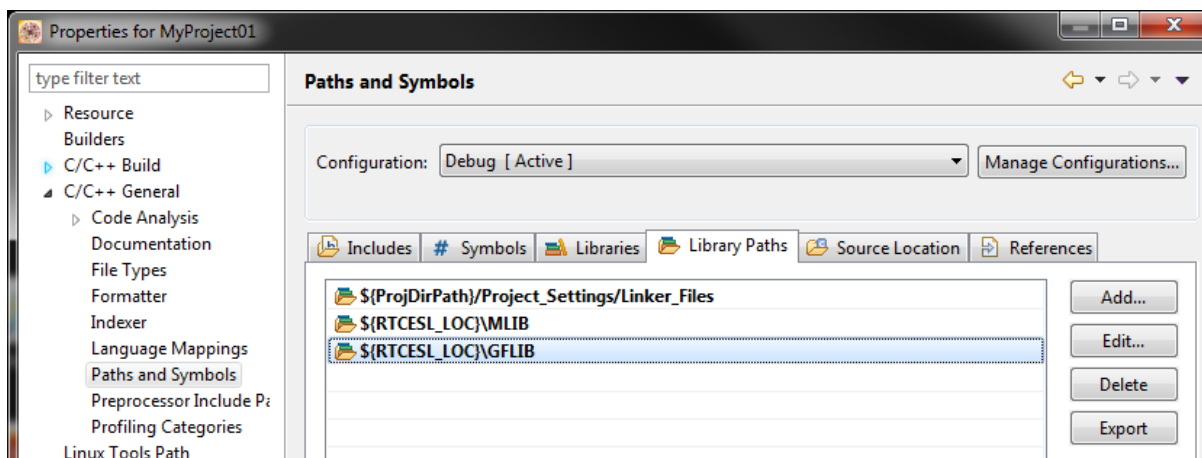

Figure 1-22. Library paths
- In the right-hand dialog, select the Library Paths tab. See Figure 1-22.
8. Click OK, and the paths will be visible in the list. See Figure 1-22.